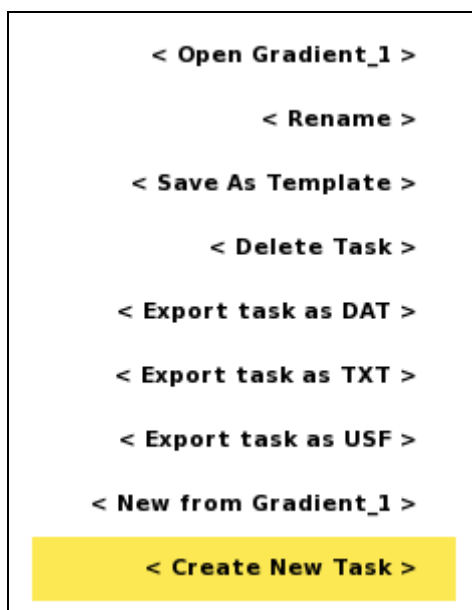

Figure 22 Task option menu with the Create New Task item highlighted
– Press <Options> and the option menu of Figure 22 will be shown